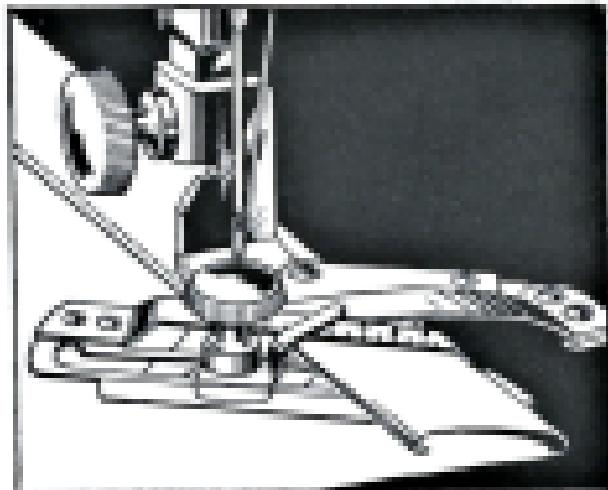

Fig. 41. Showing How Adjustable Hemmer is Used for Making Hems Up to $\frac{15}{16}$ " Inch Wide
4. Place cloth in hemmer and draw it back and forth until hem is formed, as shown in Fig. 41.